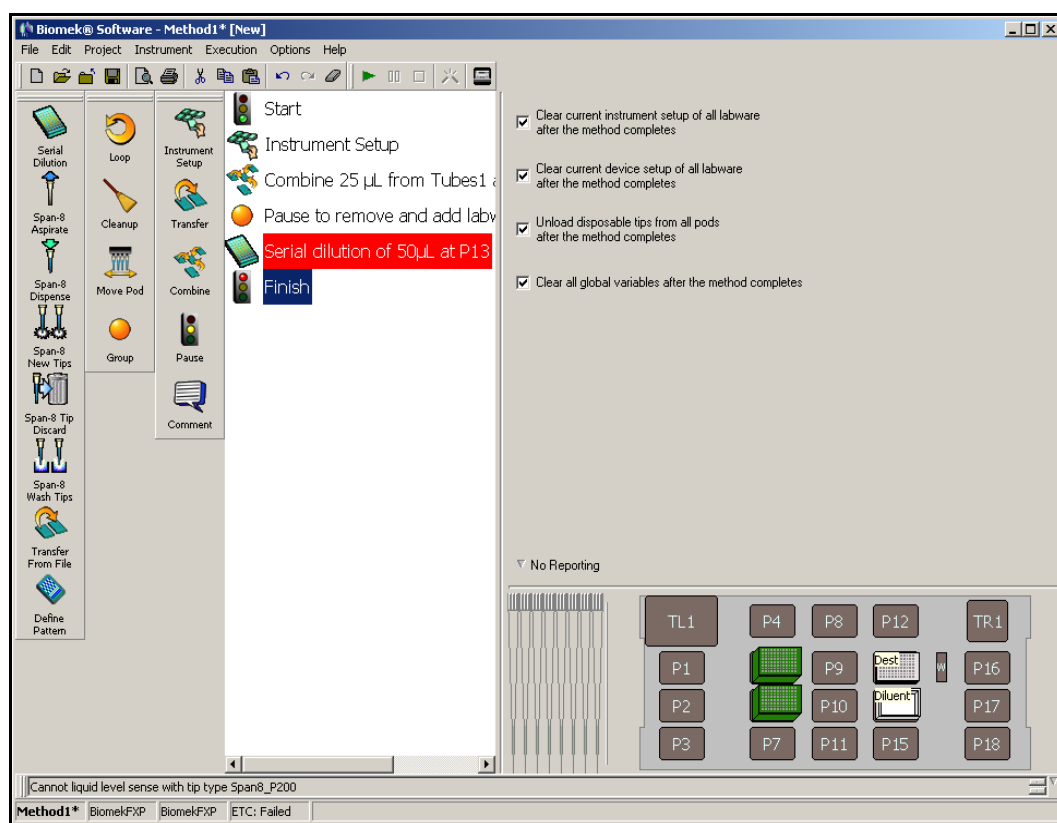

Figure 6-16. Error displayed
13. Highlight the **Finish** step to validate the method. OOPS!!! All the red indicates an error (Figure 6-16). Go to the next section to learn how to correct this error.